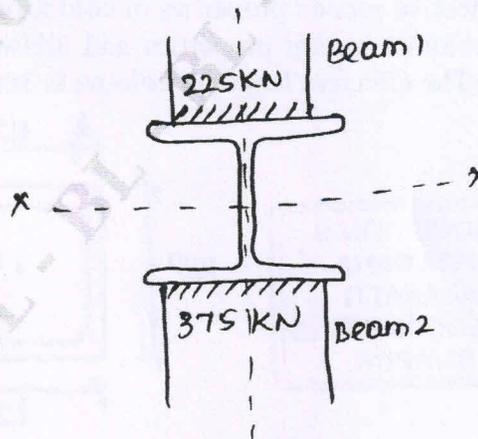

Fig Q3(b)
b. The column ISHB 300@ 618N/m in a framed building supports the beam as shown in Fig Q3(b) at its top end. The beams are welded to column flanges and transfer end reaction of 225kN (beam 1) and 375 kN (beam 2) and an axial compressive force of 675 kN from the top storey. The bottom end of the column has a similar to beam to column arrangement as well as loading. Check the adequacy of the column if its effective length is 3.2m above the both axis. The beam reactions and loads have been computed from factored loads.